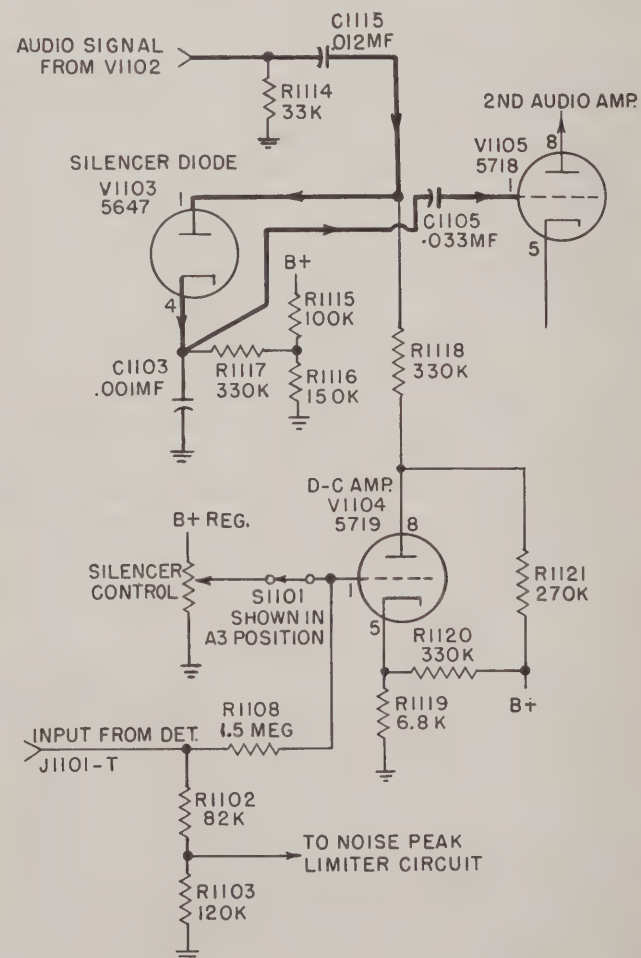

Figure 2-5. Silencer Circuit, Simplified Schematic
(2) SILENCER CIRCUIT (AN/FRR-22 and -23 RECEIVERS ONLY).—See figure 2-5. A silencer circuit, V1103 and V1104, is active in the audio assembly when the RECEPTION control is in the A3 SHARP or A3 BROAD position to prevent noise from being further amplified by succeeding stages in the absence of signals.